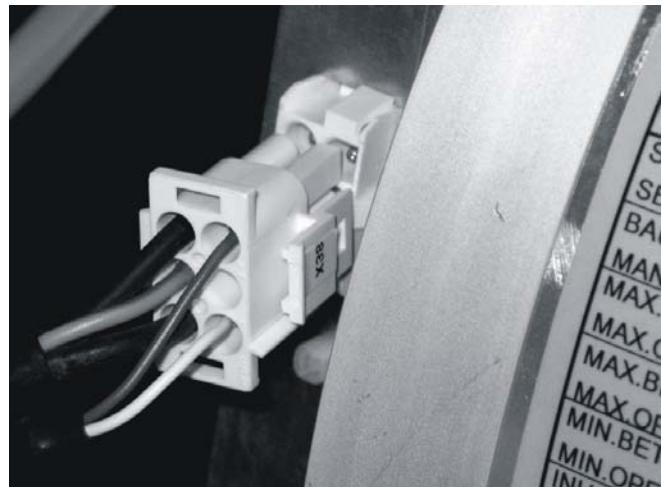

Figure 20: Disconnecting gas circulation fan power supply
21. Disconnect the gas circulation fan power supply (see Figure 20).